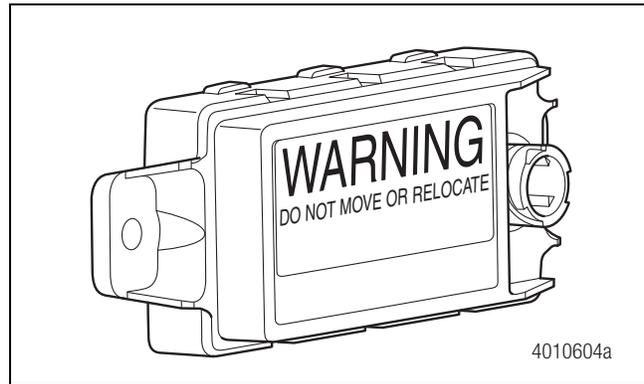

Figure 3
1. Place the new ESC module, part number 400 850 299 0, in mounting position and secure it with the two capscrews and nuts. Tighten the nuts per the manufacturer's recommended torque specification. Figure 3.